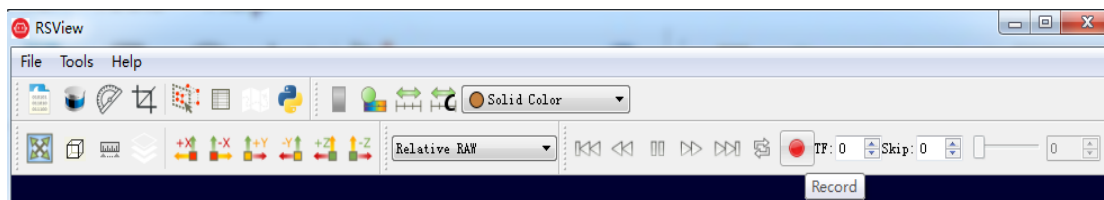

Figure A-5: RSView save button
1. Click the **Record** button during real-time display (Fig. A-5).